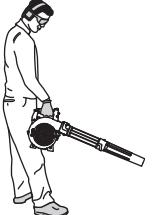

Fig. 15
**WARNING:** After starting the unit, always stand on the left side of the unit to operate it as shown in figure 15 to keep from blocking the air intake.
- **Hold the blower with the right hand.** Do not stand on the right side of the blower when operating the unit (Fig. 15). If you do, you will be blocking the air intake and this will affect the unit's performance. Instead, be sure to stand on the left side of the unit to maximize the unit's efficiency (Fig. 15).